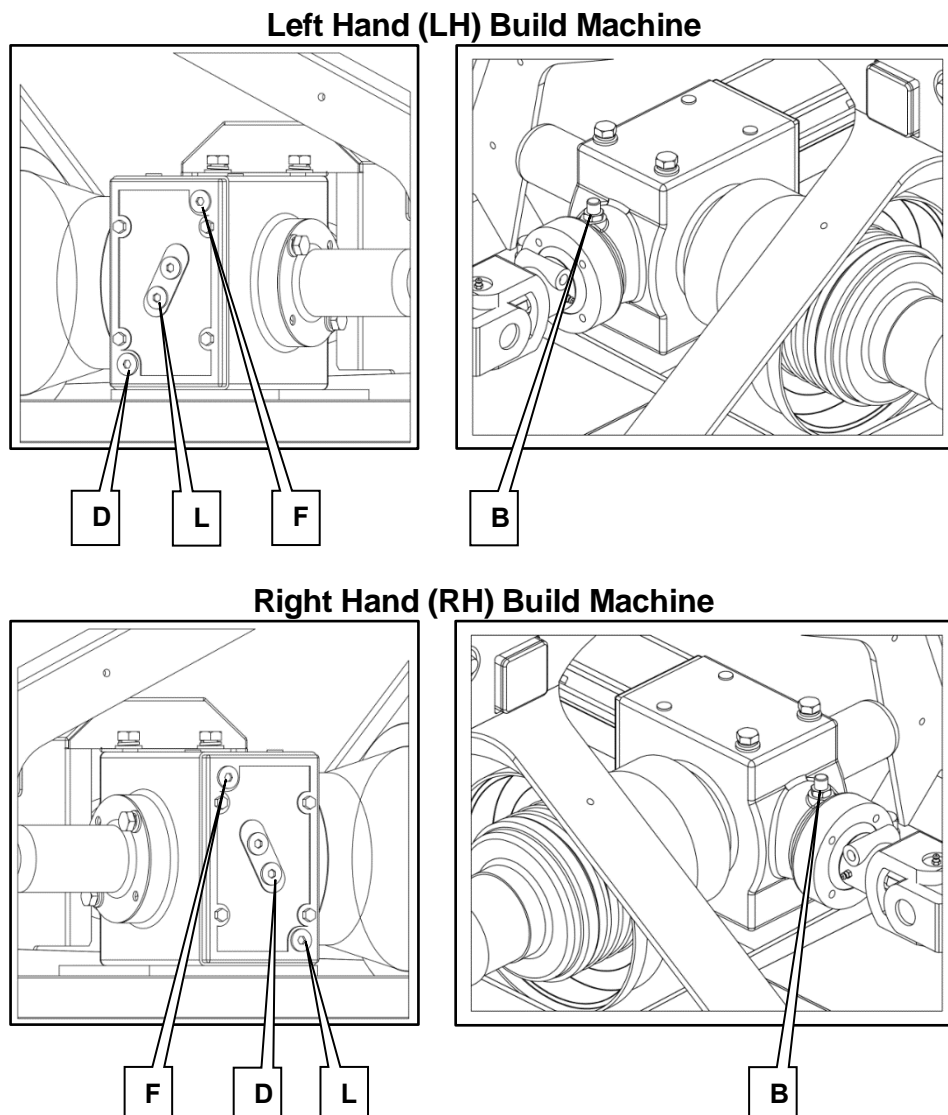

Figure 9.1
Drain and replace the oil after the first 50 hours' work and thereafter every 500 hours or 12 months, whichever is the earlier. The positions of the filler plugs (F), level plugs (L), drain plugs (D) and breather (B) are shown for the gearbox in Figure 9.1 below for all models of Rollifail.